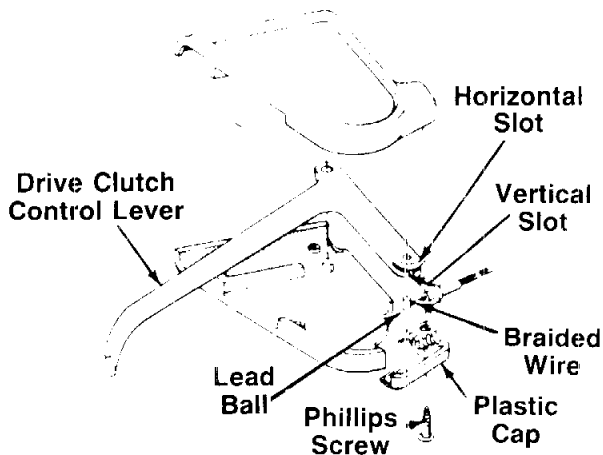

FIGURE 9.
2. Slide the braided wire around in the horizontal slot. See figure 9.
4. Secure the plastic cap to the clutch control housing using the two Phillips head screws. See figure 9.